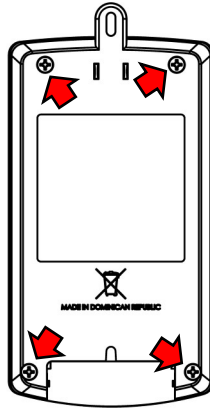

Fig. 1: Rear of the unit
- On the back of the unit, remove the four (4) screws that secure the rear housing and pull off the rear housing (see Fig. 1).